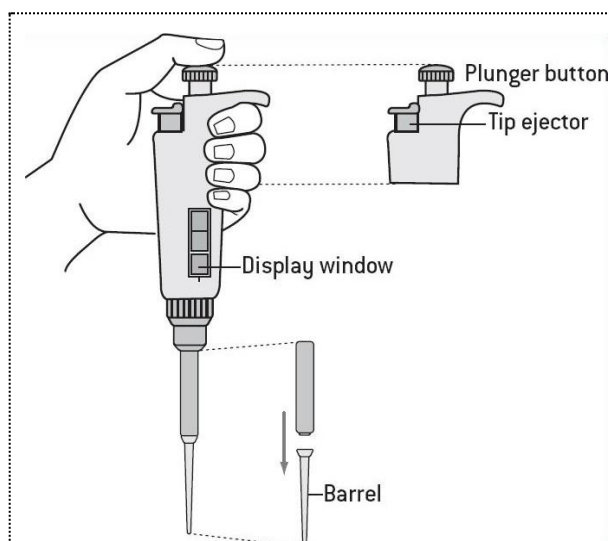

Figure 1.1 A P-20 micropipette
2. Review the parts of a micropipette in Figure 1.1 opposite.